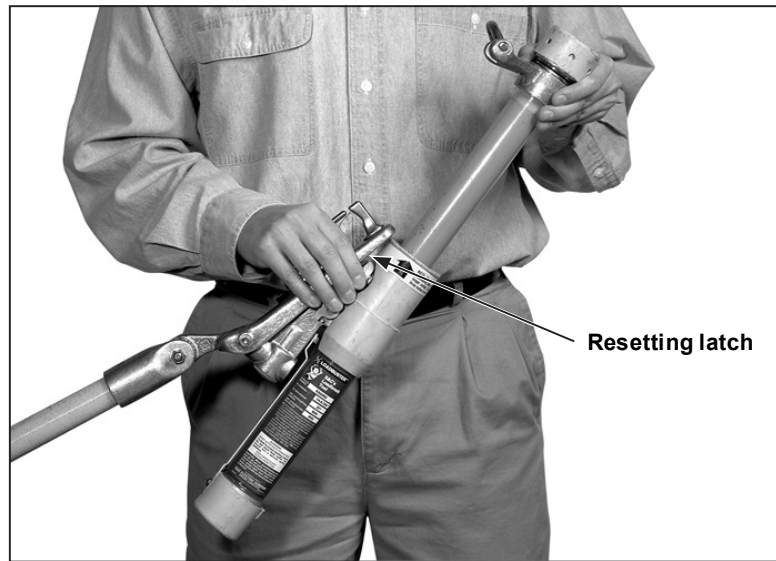

Figure 7. Resetting Loadbuster.
Step 5 To reset Loadbuster for the next operation, hold as shown in Figure 7. Extend the tool slightly and lift the resetting latch with the thumb. With the latch up, telescope the tool completely so the trigger can reset itself. Check for proper resetting by extending the tool about three inches. Throughout this travel an increasing spring resistance should be felt.